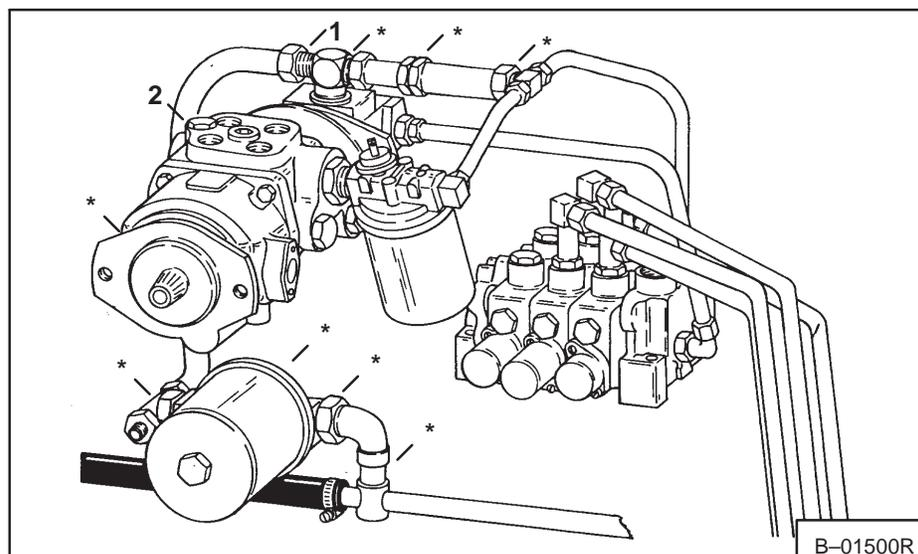

Fig. 2-9 Hydraulic System (Possible Leak Locations)
3. Loosen fitting at the top of the pump (Fig. 2-9, Item 1). When fluid begins to flow out, tighten the fitting.
4. While the reservoir is under pressure, check the eight areas shown (Fig. 2-9, marked with *). See if hydraulic oil is leaking from any of those areas. If it is, correct the cause of leak and check again.
1. Remove the plug from the top of the valve plate (Fig. 2-9, Item 2).